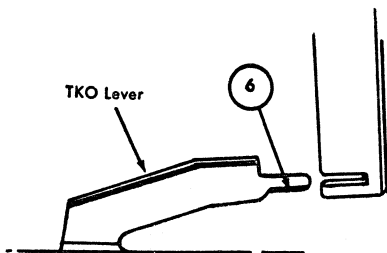

Figure 18. Forming the TKO Tip
6. TKO TIP. Form the tip so that, with the clutch locked, the tip will just touch the bottom of the angular plate of the tab lever when the tab lever is at rest (Figure 18). To test this adjustment, use a simultaneous operation of the carriage return and tab. The tab lever should safely unlatch the clutch and proceed to the next set tab stop.